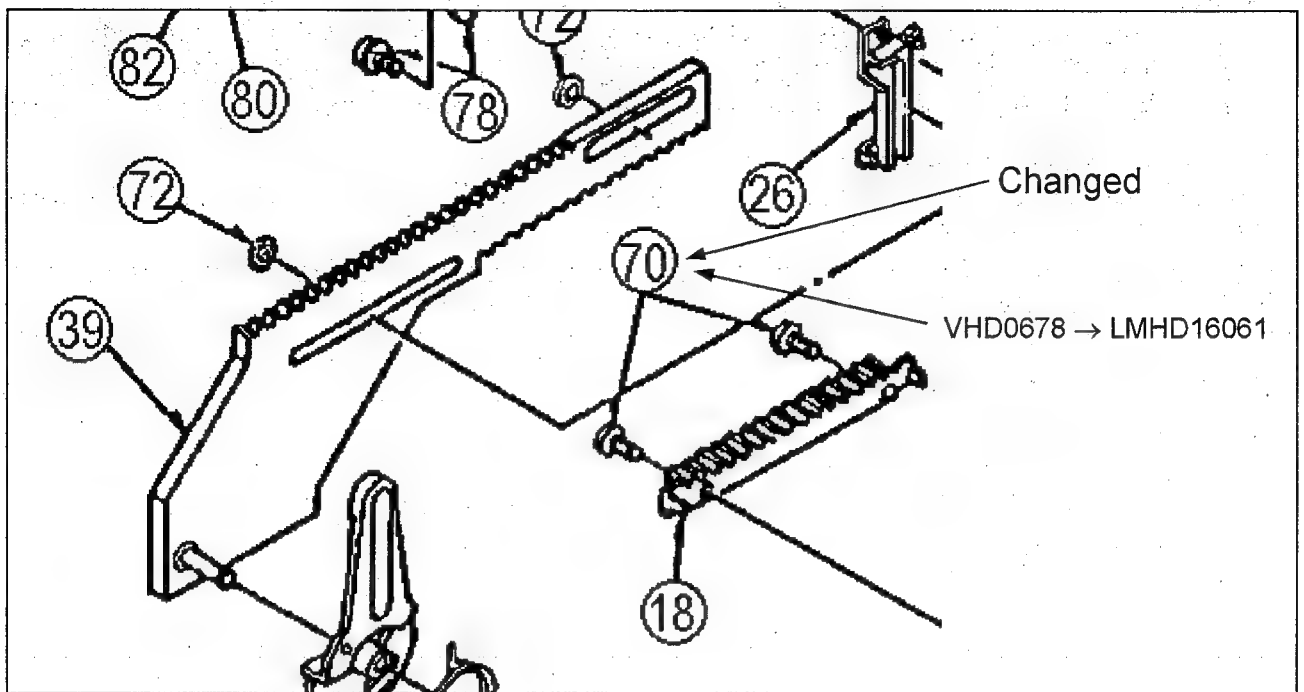

Fig. 1
- 1). Screws for Wiper Racks are changed from VHD0678 to LMHD16061 as shown in figures 1 and 3.